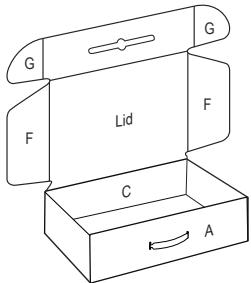
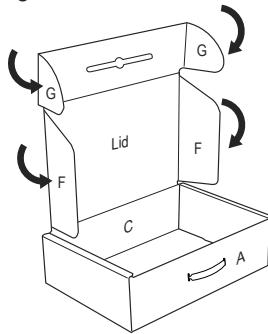

Figure 5
Figure 6
4. Fold flaps F inward (See Figure 5) so that they slide inside of the mailer when closing. (See Figure 6)
5. Fold front lock tabs G inward (See Figure 5) and slide into the slots in the front of the mailer to secure. Pull handle through opening. (See Figure 7)